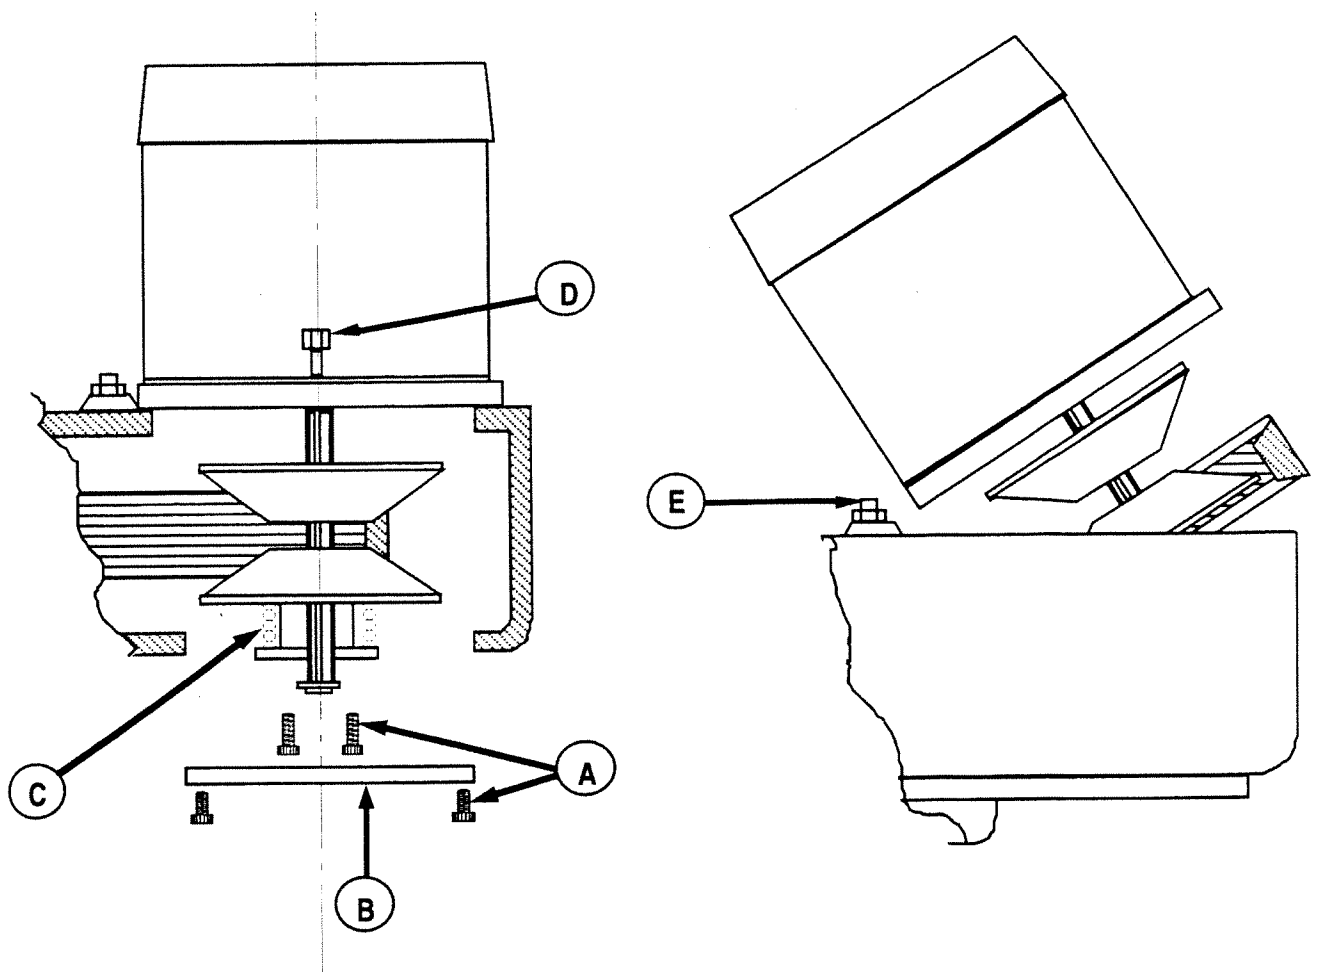

Figure 9-1. Motor Removal
9.1 MOTOR REMOVAL (Figure 9-1)